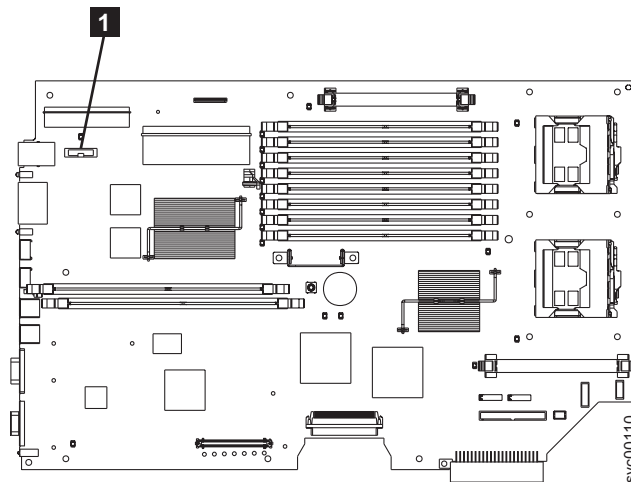

Figure 55. Battery location
4. Locate the battery **1** on the system board. See Figure 55.